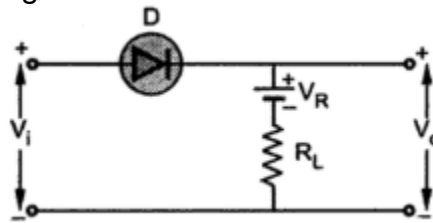

Fig. 1.54 Clipping below V_R
- The circuit is shown in the Fig.1.54.